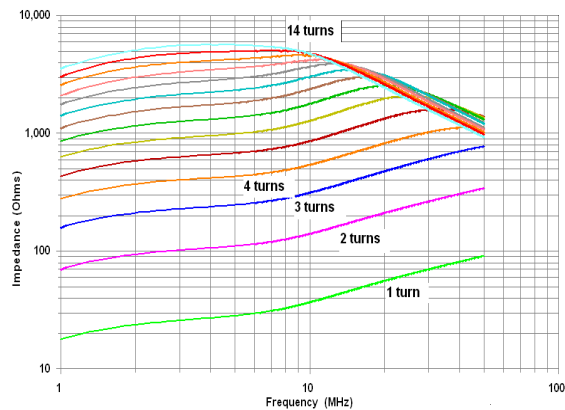
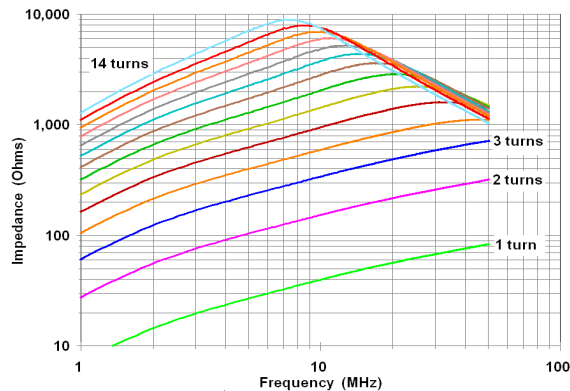

Fig 18a – Impedance of multi-turn chokes on a 2.4" o.d. toroidal core, but made of Fair-Rite's new #31 mix (Measured Data)
Fig 19a – Impedance of multi-turn chokes like those of Fig 16a, but on a Fair-Rite #43 core. (Measured data)
**#31 Material is a Problem Solver** Fair-Rite's relatively new #31 material (introduced around 2004) is extremely useful, especially if some component of your problem is between 1.5 – 150 MHz. Measured data for this material is displayed in Figs 18a and 18b. Compare it with Figs 19a and 19b, which are corresponding plots for the older #43 material. We'll discuss baluns and chokes in detail in Chapter 6.
**A Design Example:** Ten turns of the positive DC lead for a mobile transceiver is wound around our standard #31 2.4" toroid, and the DC current for our mobile transceiver is 1A on receive. The catalog tells us that H is 0.09 oe for 1 Ampere Turn, so  $H = 0.9$  oe in our 10-turn choke, which reduces impedance to 40% of the measured value at 10 MHz and 50% at 25 MHz. If we were to re-plot the data with H as constant and frequency on the horizontal axis, we could extrapolate impedance of about 32% at 5 MHz. Applying these correction factors to the data of Fig 18a tells us that with 1A of bias, we could expect our 10 turn choke to look like about 1,100  $\Omega$  at 5